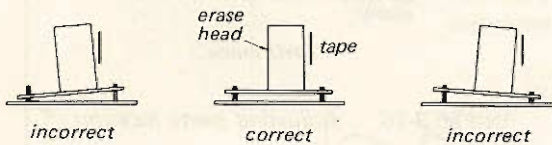

Fig. 3-14. Erase head zenith adjustment
- 1) Adjust the two zenith adjusting screws, to obtain even contact between tape and head. See Fig. 3-14.
- 1) Adjust the zenith adjusting screws to obtain the even contact between the tape and the head as shown in Fig. 3-14.